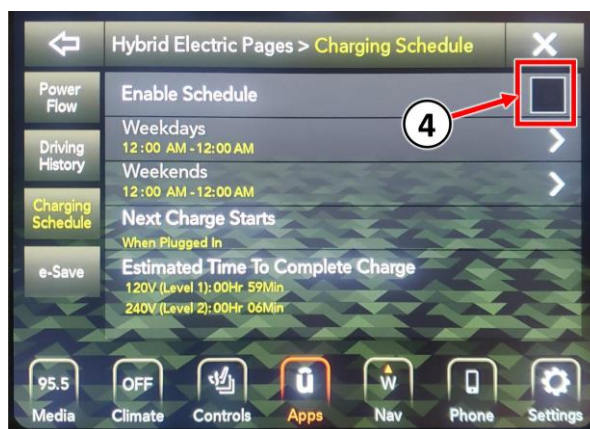

Figure 3 – Apps Display Screen
4. Verify the “Check Mark” is NOT selected in the “Enable Schedule” box (Figure 3).